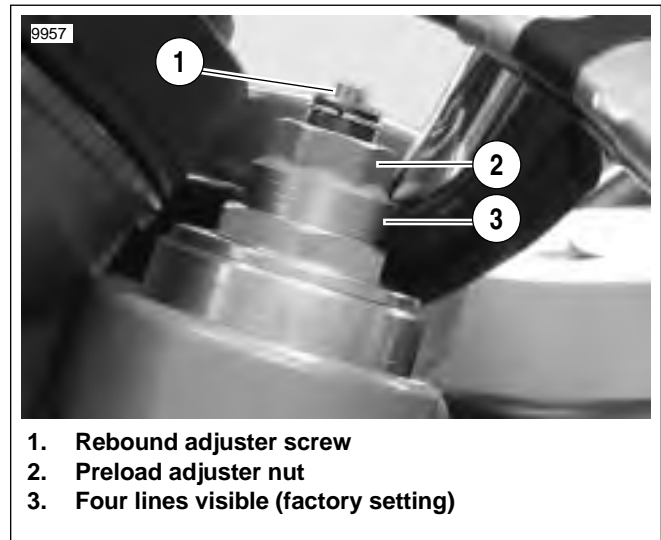

Figure 1-30. Front Fork Preload And Rebound Adjuster
1. Check number of lines (3) to be showing for your load condition. Refer to Table 1-10 and Table 1-11.
2. See Figure 1-30. Adjust preload by turning the adjuster nut (2) with a wrench.
1. See Figure 1-30. Using a screwdriver, turn the slotted dial (1) clockwise until it stops. This is the maximum rebound damping setting.